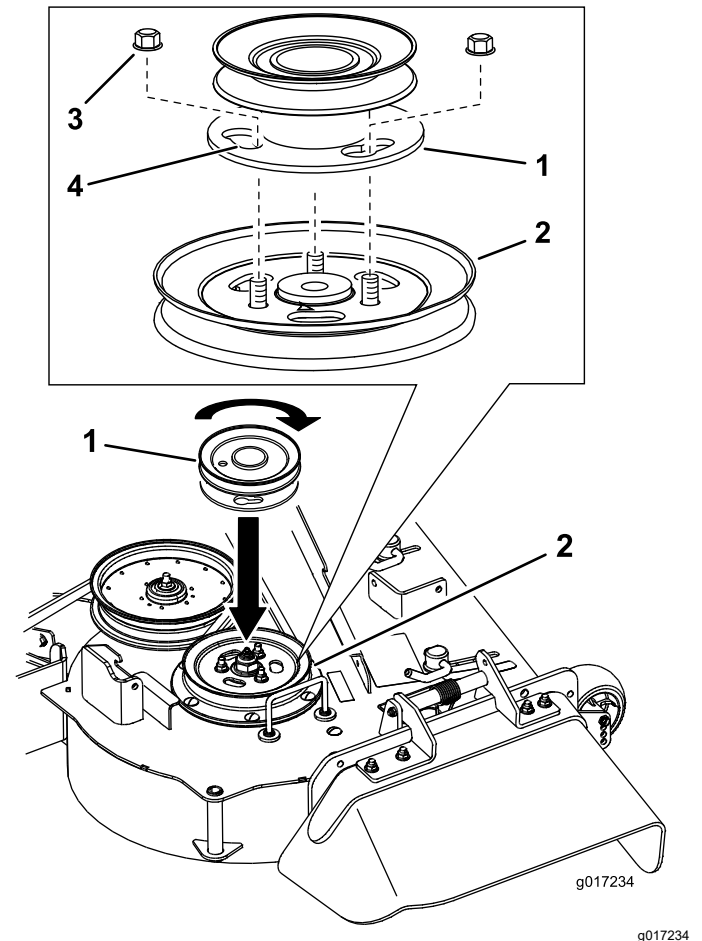

Figure 10
1. Remove the nuts on the existing mower-deck pulley (Figure 10).
2. Install the new pulley assembly onto the mower-deck pulley bolts (Figure 10).
3. Turn the pulley to lock it into position (Figure 10).